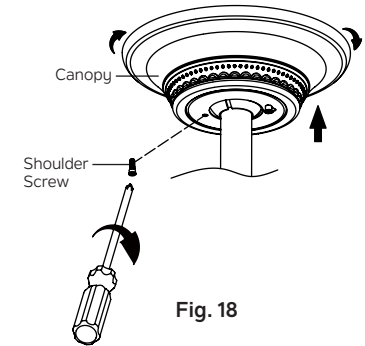

Fig. 18
Step 2. Assemble canopy by rotating key slot in canopy over shoulder screw in mounting bracket. Reinstall the shoulder screw that was previously removed, then retighten two shoulder screws securely. (Fig. 18)